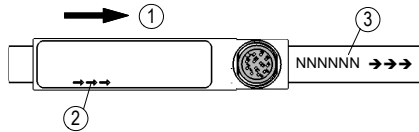

Fig. 7: Alignment
- ▶ Take care that the magnetic sensor is aligned correctly in order to ensure optimum sensing (see **Fig. 7**).
2. The direction of the arrow of the sensor imprint must tally with the direction of the arrow of the tape imprint for alignment (Fig. 7).